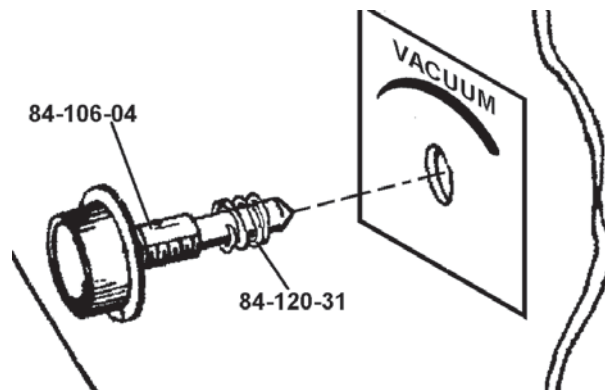

Figure 5
20. Install (84-120-31) Spring on (84-106-04) Needle Valve. Screw Needle Valve Assembly into side of Envelope Feeder. (**Figure 5**)